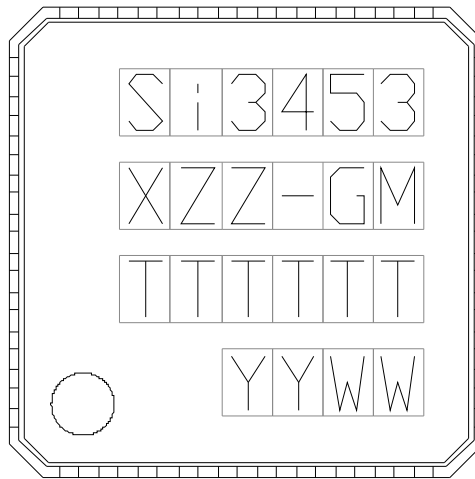

**Figure 9. Device Marking Diagram**
- Updated Figure 9, "Device Marking Diagram," on page 35.